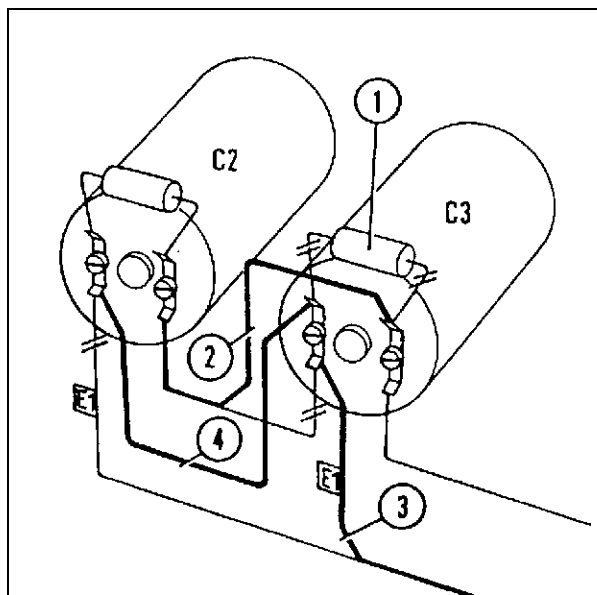

Fig. 19:
- Remove resistor (1/Fig. 19 / p. 32) at C3.
- Change connection lead C2/C3 (2/Fig. 19 / p. 32) over to C3.
- Pull of lead E1 (3/Fig. 19 / p. 32) at C2 and plug on to C3.
- Plug new lead from service accessories bag (4/Fig. 19 / p. 32) to C2 and C3.